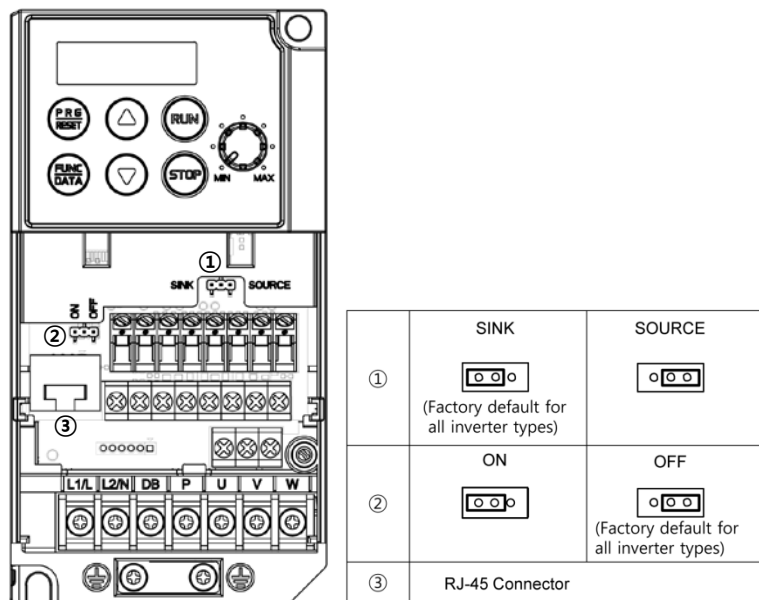

Figure 2.11 Locations of Jumper Switches and RJ-45 Connector
Switching the jumper switches (shown in Figure 2.11) allows you to customize the specifications of the digital I/O terminals and the RS-485 communication terminating resistor.
① SW10	<p>SINK/SOURCE switch for digital input terminals</p> <ul style="list-style-type: none"> • To use digital input terminals [X1] to [X3], [FWD] and [REV] in the SINK mode, set a jumper in the sink position, to use them in the SOURCE mode, set a jumper in the source position. (See Figure 2.11.) • To switch between SINK and SOURCE modes, use a mini needle-nose pliers or the similar tool to change the mounting position of the jumper.
② SW9	<p>Terminating resistor ON/OFF switch for RS-485 communication</p> <ul style="list-style-type: none"> • To connect an optional remote keypad, set a jumper in the OFF position (factory default). • If the inverter is connected to the RS-485 communications network as a terminating device, set a jumper in the ON position. • To switch the terminating resistor ON and OFF, use a mini needle-nose pliers or the similar tool to change the mounting position of the jumper.
Figure 2.11 shows the locations of jumper switches and the RJ-45 connector.